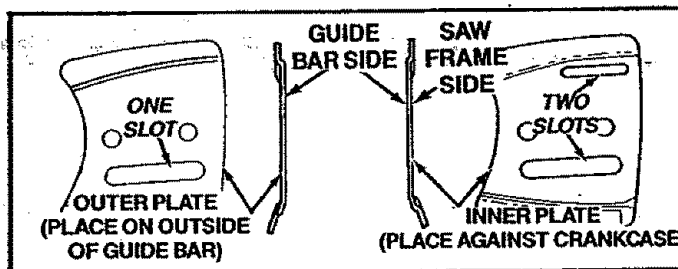

Figure 9
NOTE: Be sure the Inner Guide Plate curves or flanges toward the saw frame away from the Guide Bar. Figure 9 .
9. Install the outer guide plate (one slot). Figure 9 and 12.